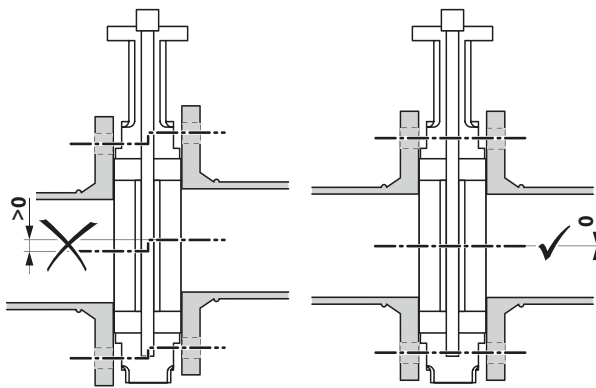

Fig. 24.
- Make sure the valve liner and flange internal diameters are in alignment. (Fig. 24)